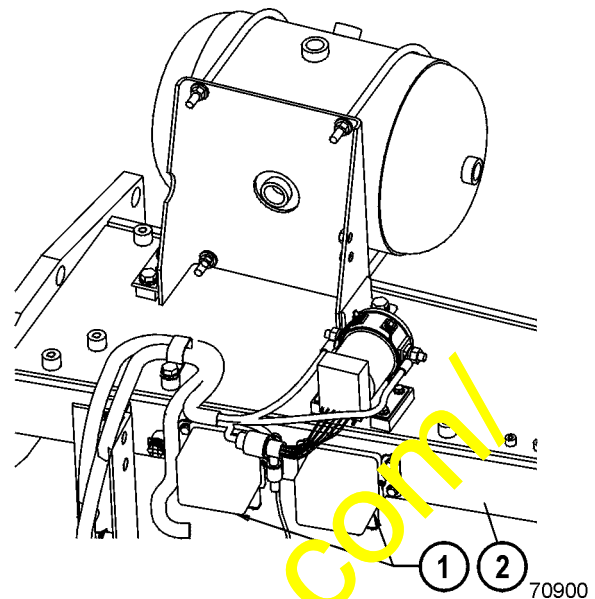

FIGURE 1. ORIGINAL STARTER SAFETY RELAYS
2. Disconnect the wires from the two relays (1, Figure 1) and remove the two relays from the truck.